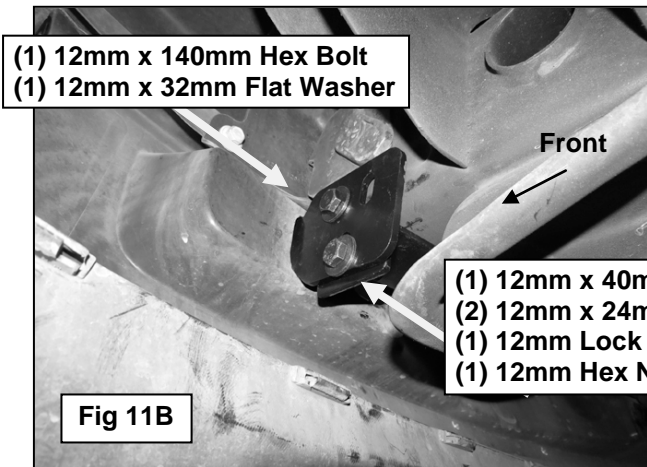

Fig 11B
- b. Select (1) Lower Support Bracket. Line up the rear hole in the Support Bracket with the previously installed Bolt Plate. Secure the Support Bracket to the Bolt Plate with (1) 12mm x 32mm Flat Washer, (1) 12mm Lock Washer and (1) 12mm Hex Nut, **(Figures 11B)**. Do not tighten.